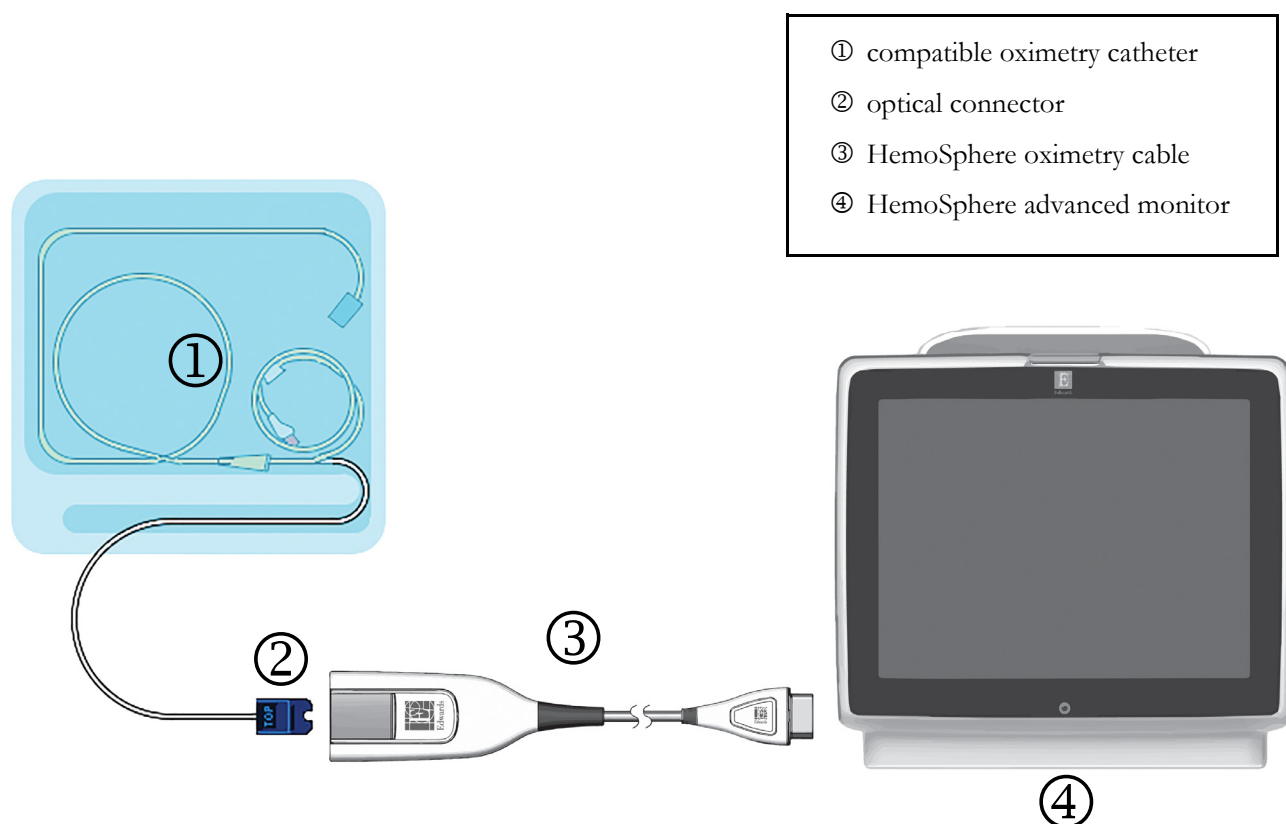

Figure 4-3 Oximetry connection overview
- 1 Connect the HemoSphere oximetry cable to the left side of the HemoSphere advanced monitor. See figure 4-3.